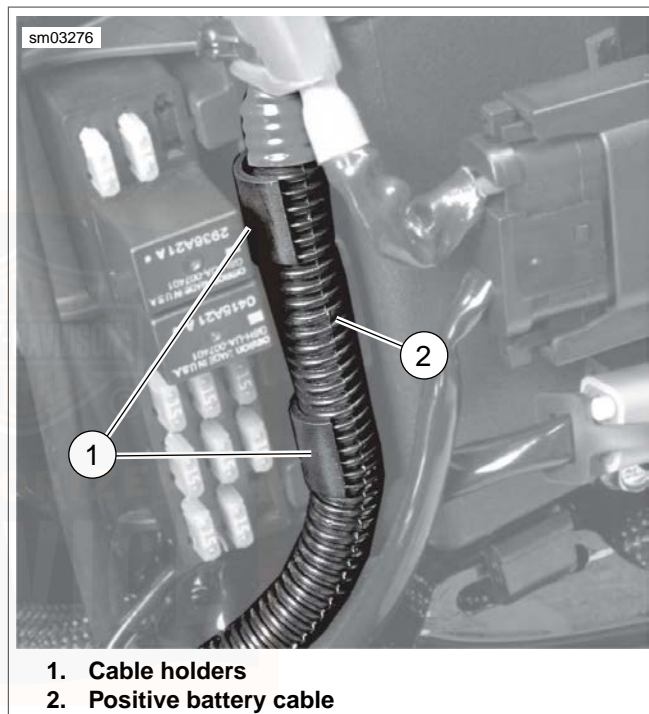

Figure 62. Positive (+) Battery Cable Holders
8. See Figure 62. Disengage positive (+) battery cable (2) from cable holders (1).